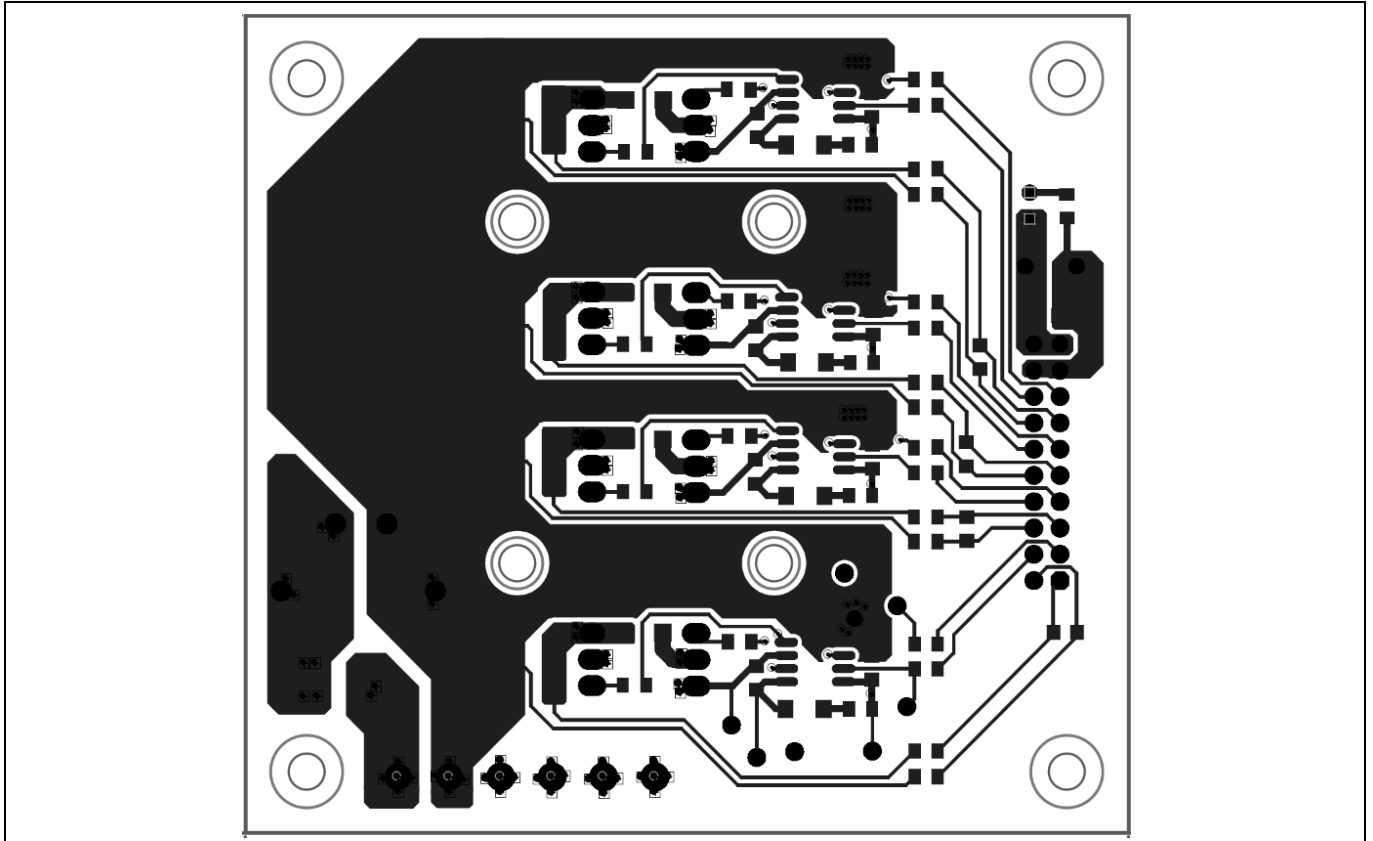
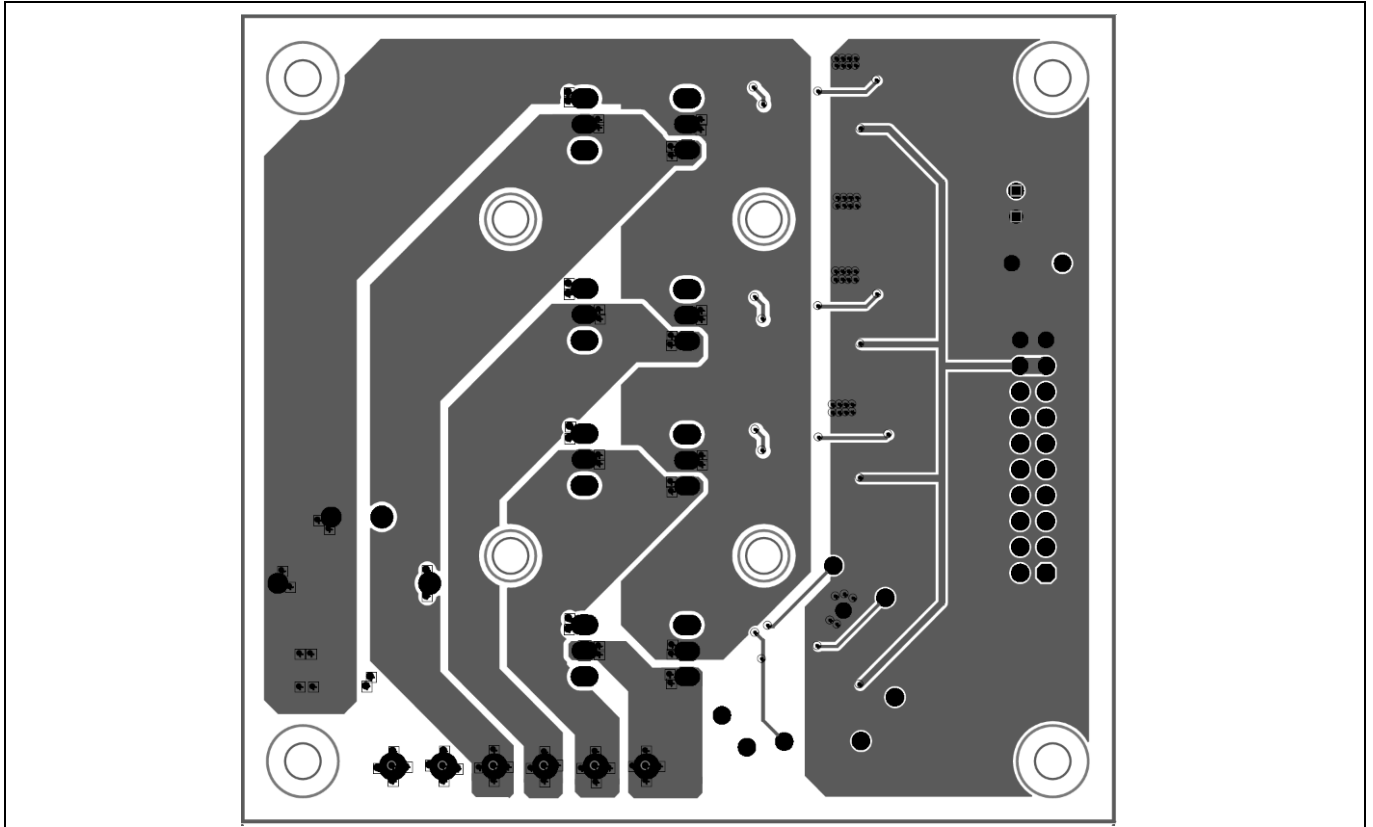

Figure 13 Top layer routing of the EVAL-PS-IRS200x-OM30118SB
Figure 15 Bottom layer routing of the EVAL-PS-IRS200x-OM30118SB
- The power ground and controller ground should be individually copper-filled (in the production process) and then shorted at the individual driver IC-COM pin. In this way the LO-COM drive loop parasitic inductance and the HIN/LIN-COM input signal loop parasitic inductance are both as small as possible (see Figure 13 and Figure 15).